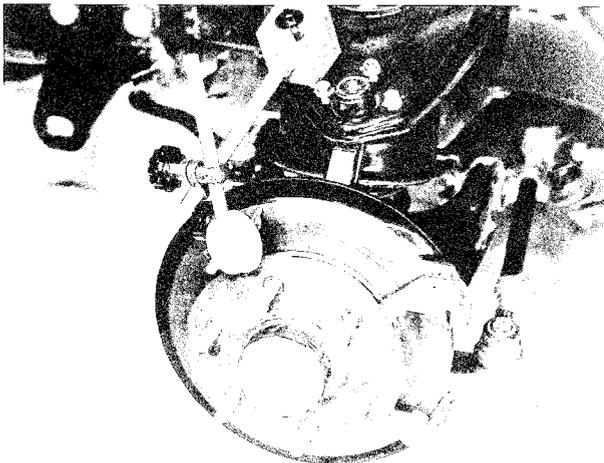

Fig. 11-36 Checking brake disc run-out
2. Check the lateral run-out of the disc with a dial indicator, as shown in Fig. 11-36.